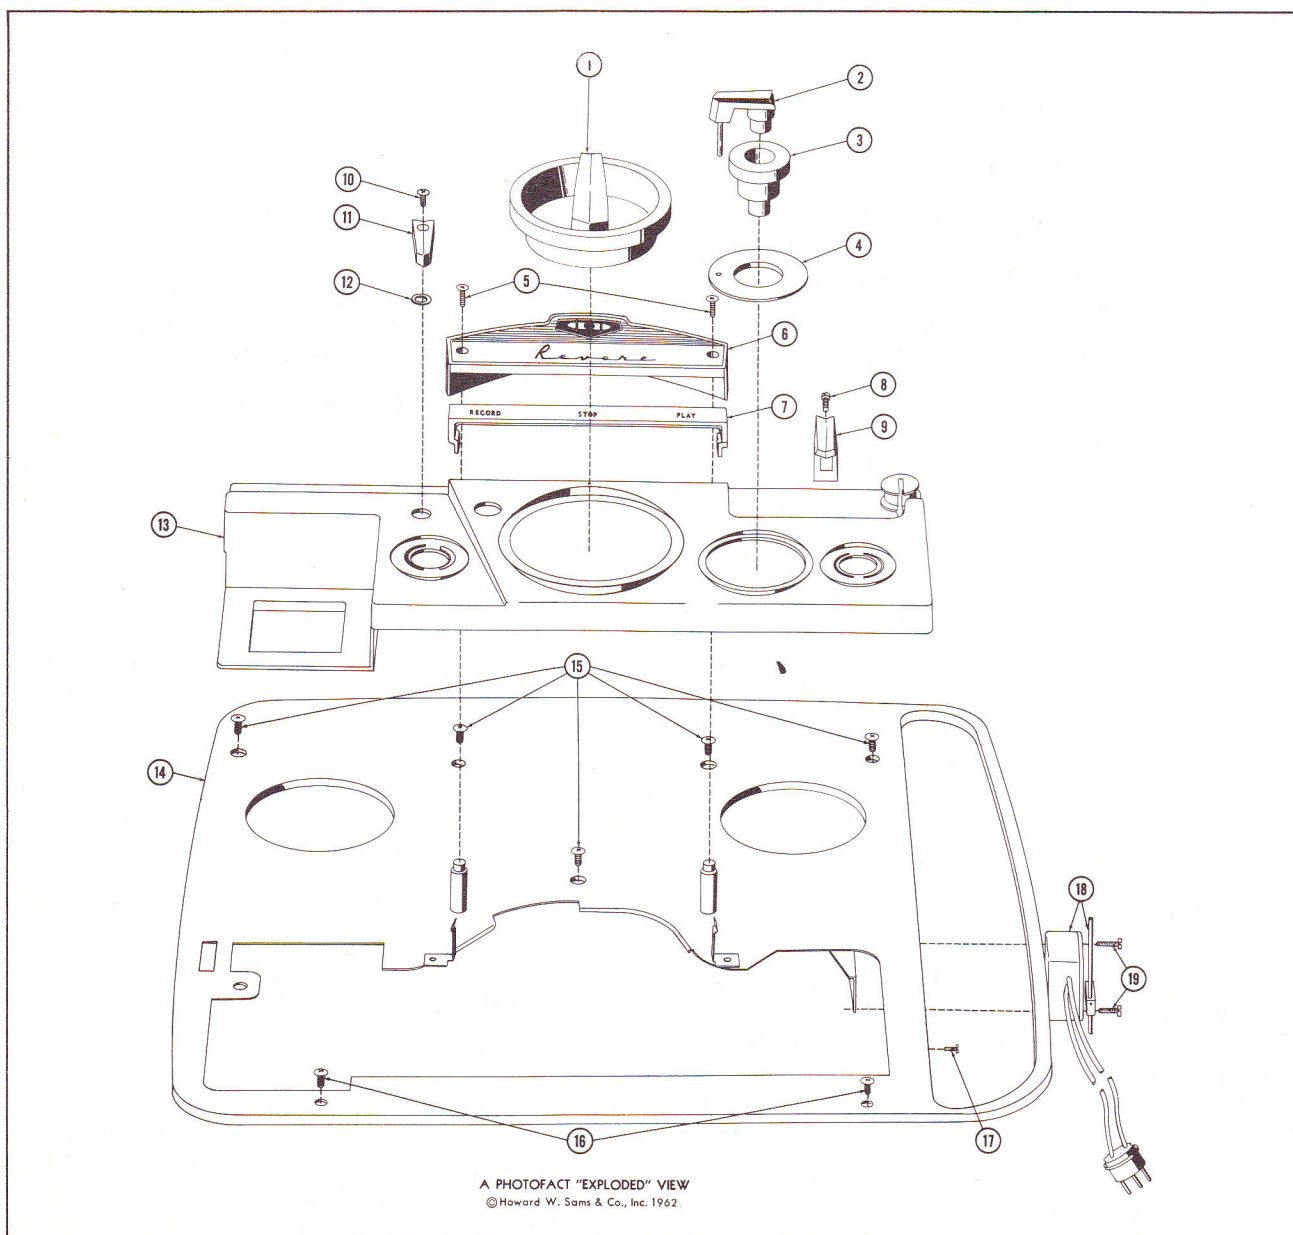
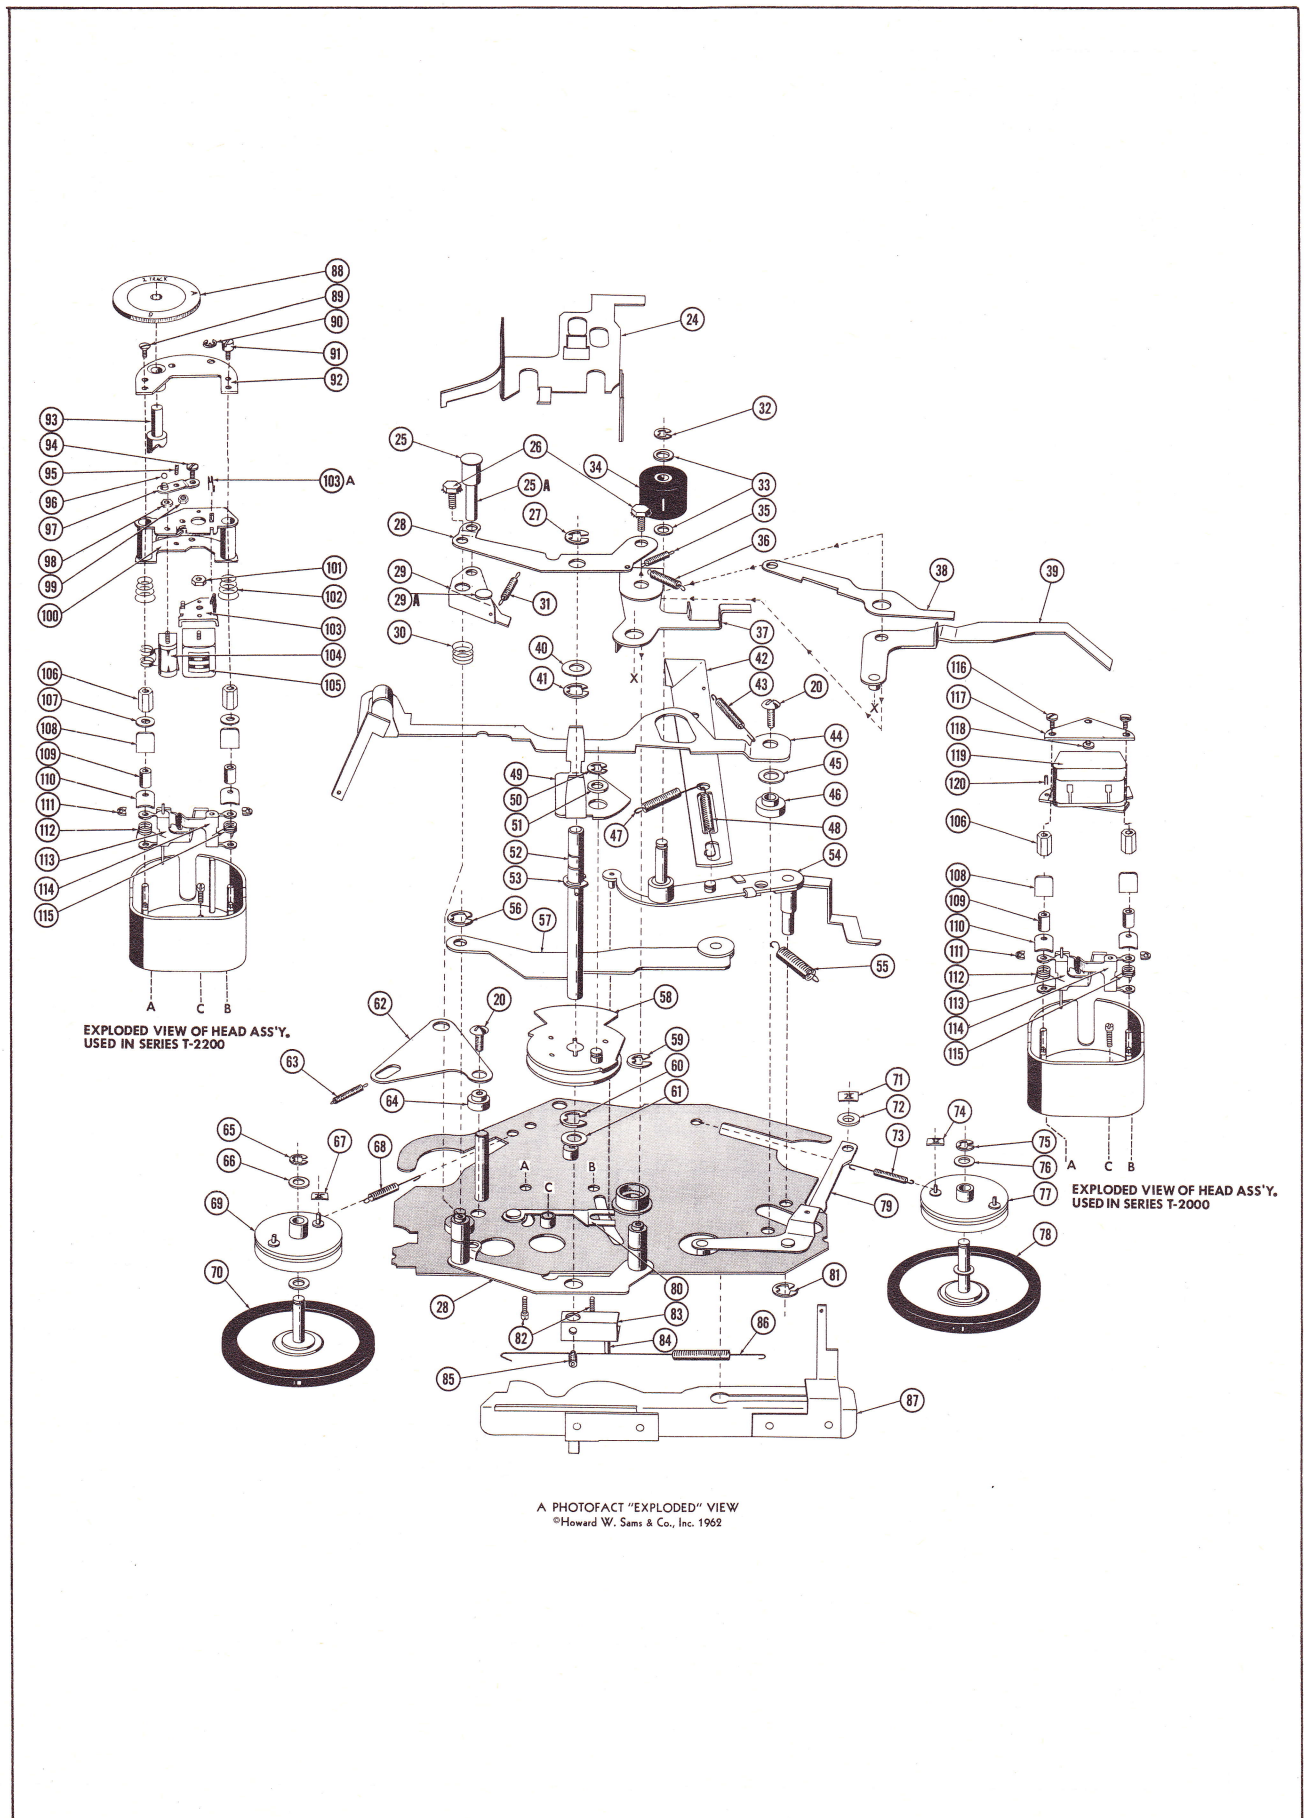

Fig. 8. Exploded View of Plastic Top and Top Plate Assembly
Fig. 13 Exploded View of Top Mechanism Plate Assembly
Remove plastic top (13) and top plate (14) assembly as follows (refer to Exploded View, Fig. 8).
1. Pull up to remove head cover (6) and clean-out cover (7). See Fig. 8. Clean head (119) or heads (104 and 105), tape guides, and capstan with alcohol (See Fig. 13).
1. Thread the recorder with tape and remove head cover (6).
2. Turn Function knob to Play and adjust azimuth screw (120, Fig. 13) for maximum output.
3. In lieu of the alignment tape, play a previously recorded tape and adjust the head for maximum treble note. After the final adjustment is made, cement the azimuth screw (120) with "Loctite."